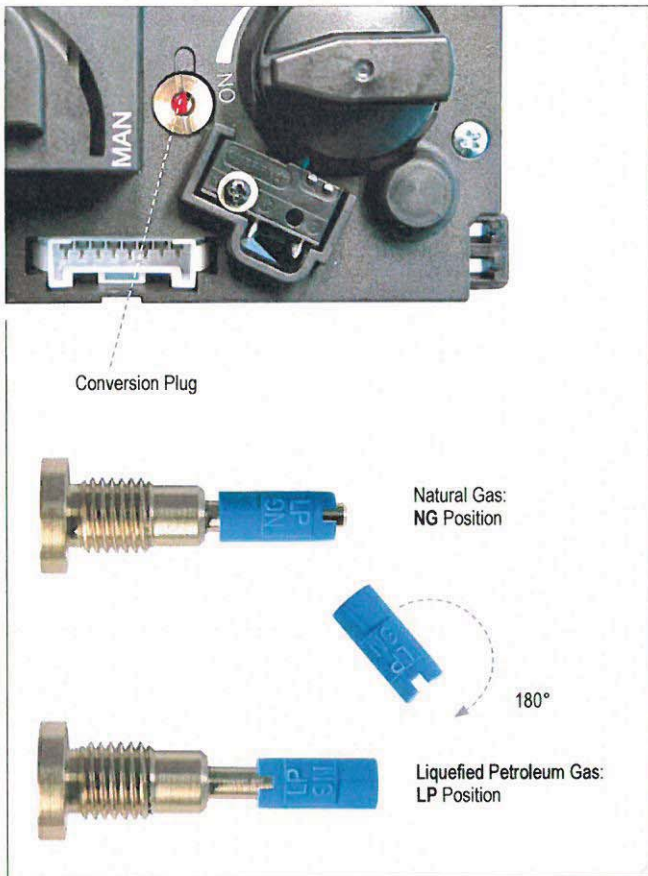

Figure 24: Conversion from one gas to another
Convertible regulators are designed to deliver either of two fixed outlet pressures for Natural Gas (NG) or LP Gas. To change from one gas to the other, turn the conversion plug (see figure 24, page 14) counter clockwise to remove. Unsnap and remove the plastic part, rotate it 180°, and then slide it back on the conversion plug until it snaps. Turn the conversion plug clockwise until it bottoms out.